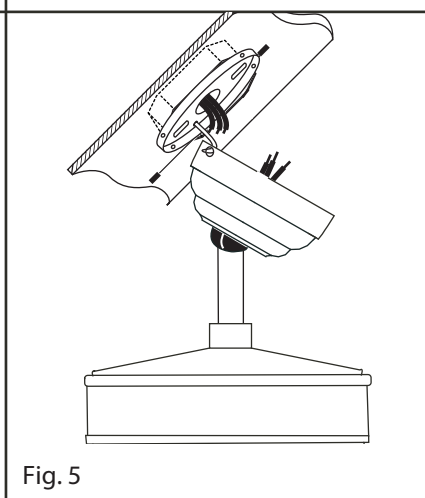

Fig. 5
5. Carefully hang fan onto hook in mounting plate using one of the two holes in the canopy. This will allow hands-free wiring. Refer to your ceiling fan owners manual for wiring instructions. (Fig. 5)